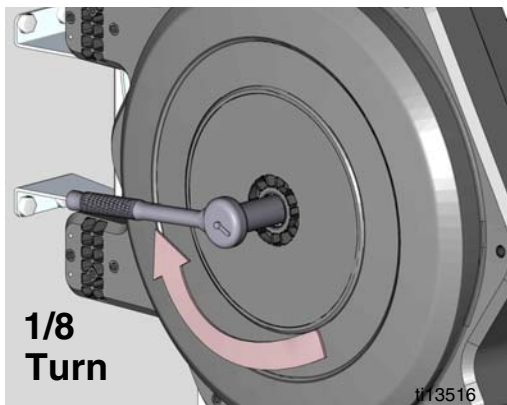

FIG. 3
2. To release spring tension (FIG. 3):